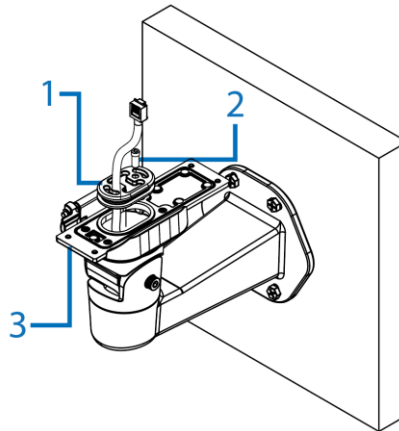

Figure 3
6. Insert the Ethernet cable through the waterproof rubber (1) (Figure 3) and if not using both grommet holes insert the rubber pin (2) (Figure 3) into the waterproof rubber.
7. Insert the waterproof rubber onto the mounting arm plate. (3) (Figure 3).